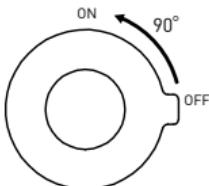

Fig. 3
3.1 The temperature safety button (10) in the temperature adjustment knob to the right [11] prevents accidental adjustment by children and protects the user from burns (Fig. 3). If you need water temperature above 38°C, move the safety button to the outside (left) and while holding it, rotate upwards (according to the plus arrow). Release the button to automatically return to the maximum setting of 38°C when the knob is turned in the opposite direction.
3.3 Outflow adjustment knob (15) - rotate the knob downwards to increase water flow from the tap (Fig. 3), as indicated on the knob. Rotate the knob upwards to shut off water flow.